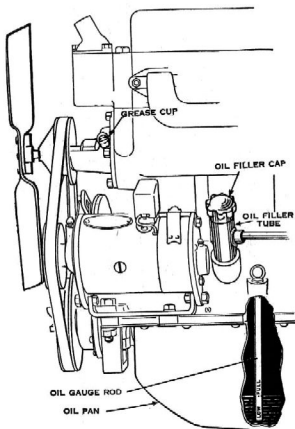

Fig. 4—Oil Gauge and Filler Pipe
Oil is carried in a reservoir located at the bottom of the crankcase and is filled through a filler tube on the left side of the motor, just back of the generator. (Fig. 4.)
- 10—Test condition of oil, by withdrawing the oil gauge rod (Fig. 4).